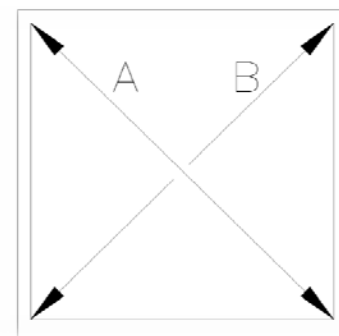

Fig. A-3
- ✓ Measure diagonals (A=B) (Fig. A-3)